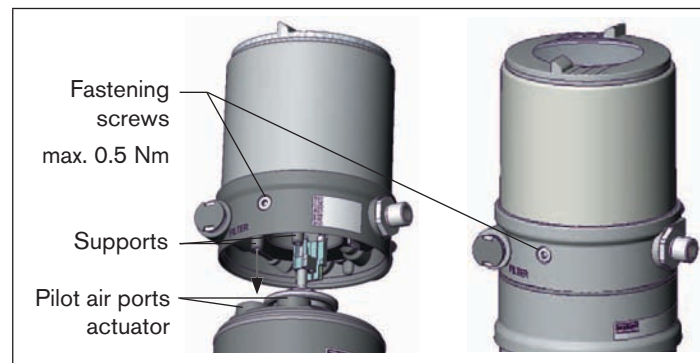

Fig. 12: Install control unit
2. the supports of the control unit can be inserted into the pilot air ports of the actuator (see also "Fig. 12").